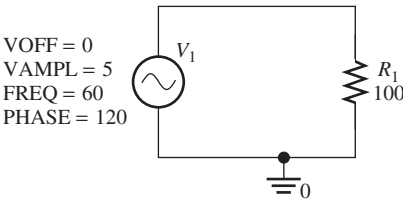

FIGURE 6.60 PSpice schematic solution for Example 6.3.
- 6. The PSpice schematic is shown in Figure 6.60.